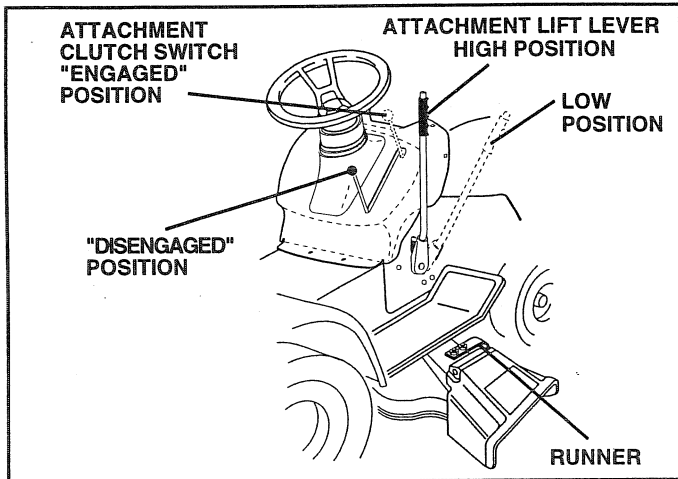

FIG. 9
TO OPERATE MOWER (See Fig. 9)
- Use the runner on the right hand side of mower as a guide. The blade cuts approximately an inch outside the runner (See Fig. 9).